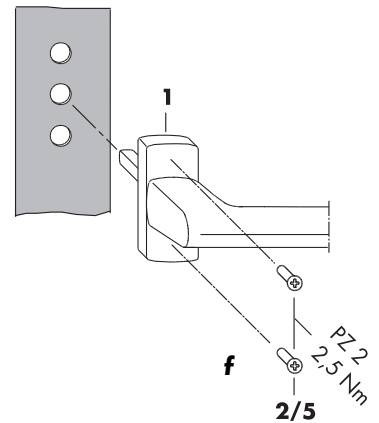

Figure 4
- f** Screw on window handle (1) using countersunk screws M5 x 35 (2/5) (PZ 2, torque 2.5 ± 0.25 Nm) (Figure 4).